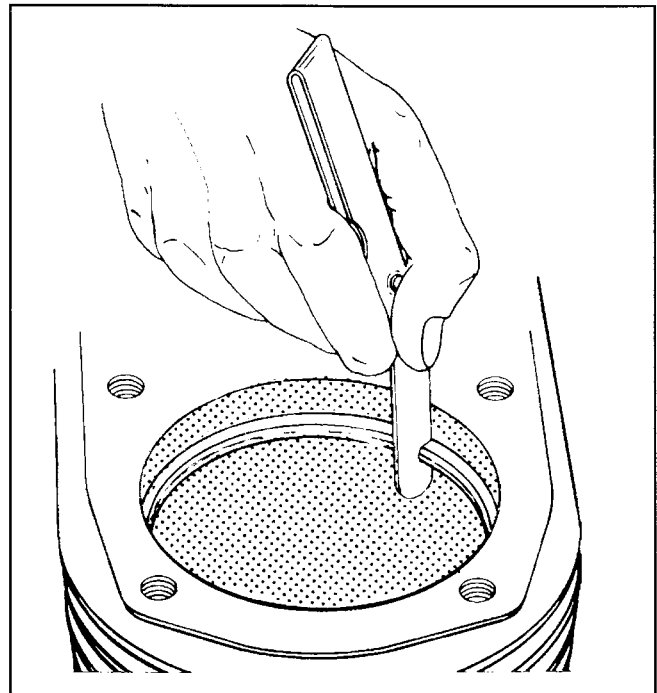

Figure 10-9. Measuring Piston Ring End Gap.
4. Before installing the rings on piston, place the top two rings, each in turn, in its running area in cylinder bore and check end gap (see Figure 10-9). Top ring end gap is **0.180/0.380 mm (0.0071/0.0150 in.)**. Middle ring end gap is **0.180/0.440 mm (0.0071/0.0173 in.)** for TH16 and **0.180/0.450 mm (0.0071/0.07177 in.)** for TH18.